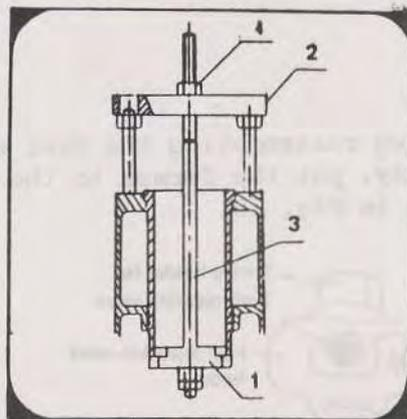

Fig. 16
(i) When replacing the cylinder liner, as shown in Fig. 16, put the round plate (1) of liner removing tools at the bottom of the liner and set piece (2) on cylinder head tightening bolt, and slowly fasten the upper nut (4).